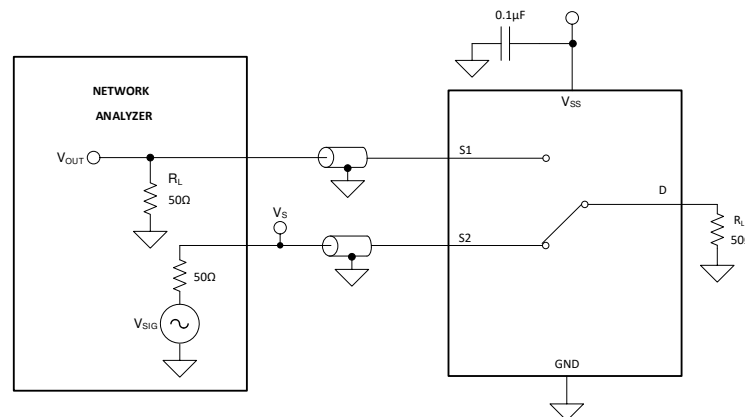

图 7-10. Crosstalk Measurement Setup
Crosstalk is defined as the ratio of the signal at the drain pin (D) of a different channel, when a signal is applied at the source pin (S_x) of an on-channel. 图 7-10 shows the setup used to measure, and the equation used to calculate crosstalk.